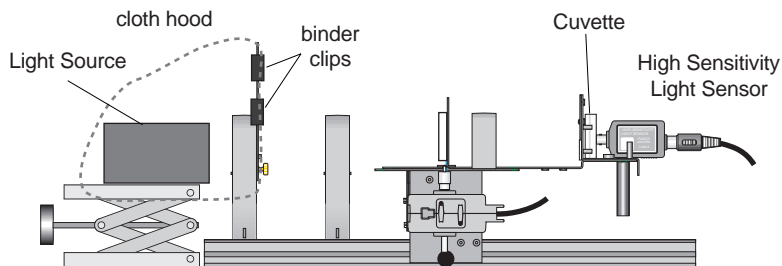

Figure 2.2: Equipment Setup for Absorption Spectrum
- Put an empty cuvette in front of the High Sensitivity Light Sensor between the sensor and the back of the Aperture Disk. Make sure that the smooth sides of the cuvette are in line with the opening to the sensor (Fig. 2.2).